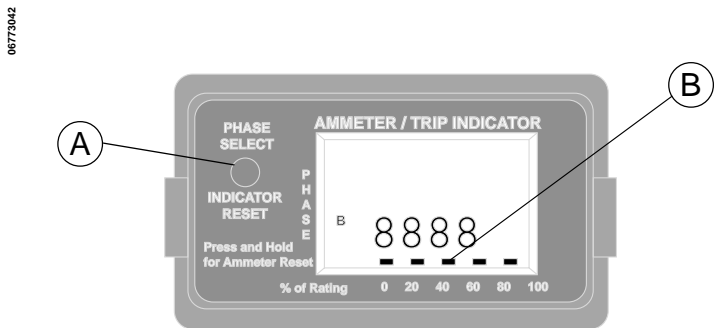

Figure 69: Ammeter/Trip Indicator
The ammeter/trip indicator, Cat. No. ALAM, is provided with the full-function trip unit and is available as an option on the standard trip unit. It monitors true root-mean-square (rms) current in phases A, B and C, and peak ground-fault current flowing in the circuit. Each value can be viewed one at a time using the phase select/indicator reset button (A, Fig. 69). (Phase values are displayed in true rms. Ground-fault current values are displayed in calculated rms based on measured peak current.) A bar graph (B) is provided indicating the level of operating current as a function of the programmed ampere rating of the circuit breaker.